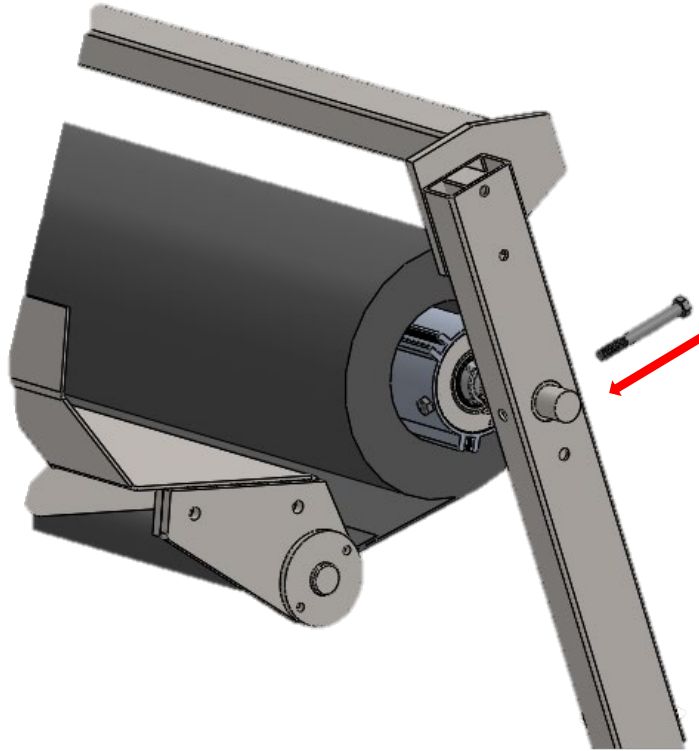

Figure 4 – Inserting Shaft Bolt
11. Once pre-tensioned, insert the 3/8" hex bolt through the arm and roll tube shaft. Remove winding disk or pipe wrench. See Figure 4.